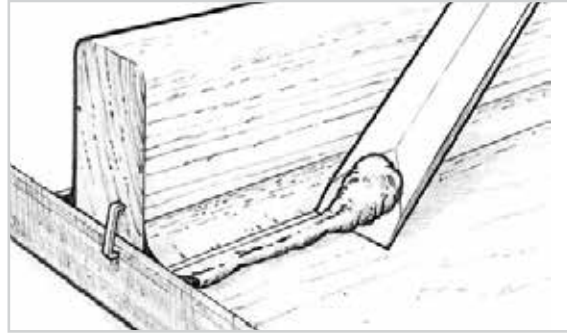

Figure 8-13 Clean up remaining excess epoxy outside of the clean margin before it cures.
3. Clean up the remaining excess material outside of the margin by using a sharpened mixing stick or a putty knife (Figure 8-13). Fiberglass cloth or tape may be applied over the fillet area before the fillet has cured (or after the fillet is cured and sanded).